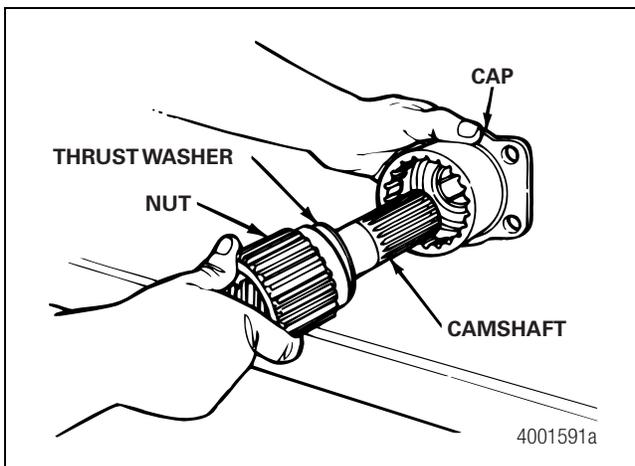

Figure 7.5
8. Separate the cap from the camshaft. Figure 7.5.